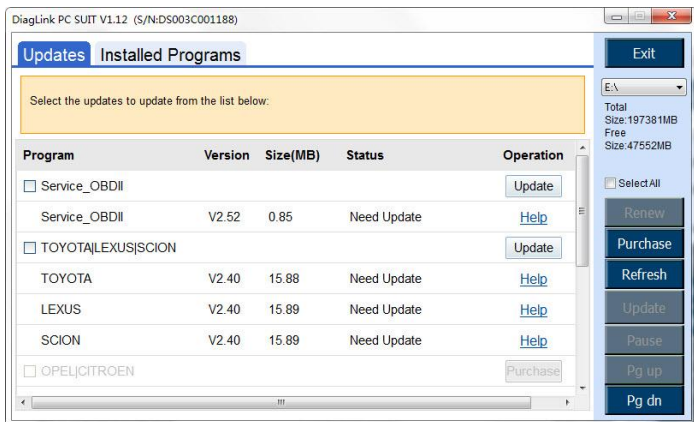

Figure 10.11
- 8) After reloading, you can install the selected program by clicking **Update** button (Figure 10.11).